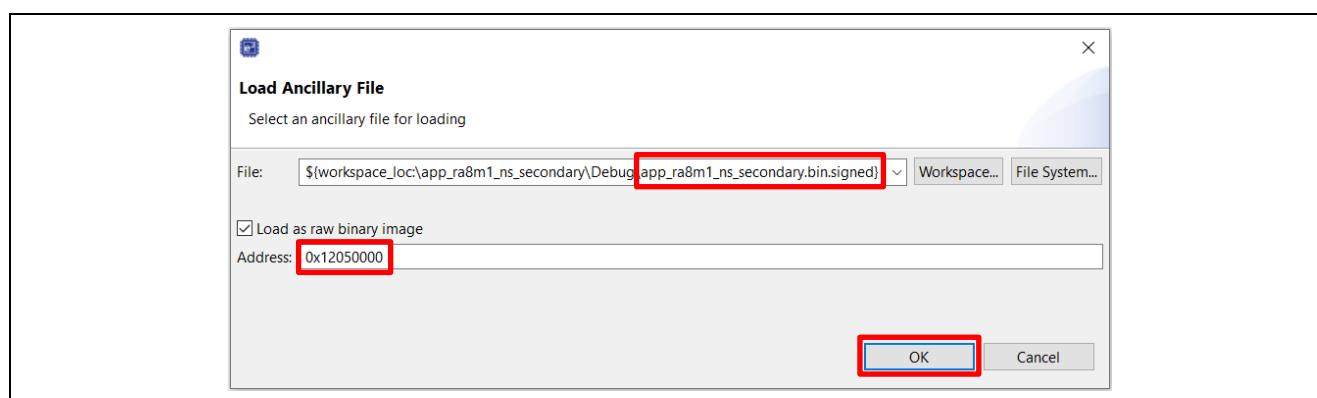

Figure 20. Load the Secondary Non-Secure Application Image for Overwrite Update Mode
3. Load the non-secure new application image to the Secondary slot region using the Ancillary loading capability  from the top of the e² studio toolbar in a similar way as Figure 20 except use address 0x12060000.